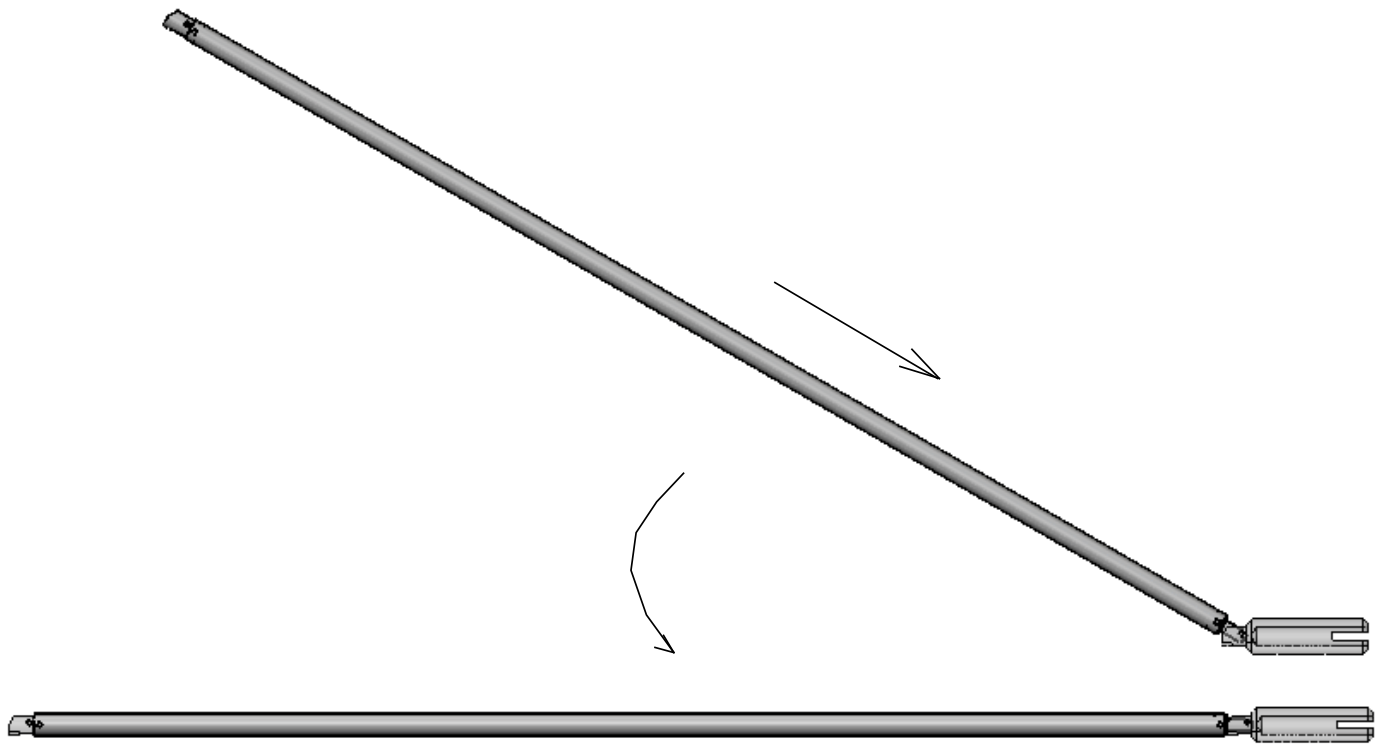

Figure 4: Connecting the BPC Installation Tool
1. Insert the BPC Insertion Tube (male end first) at an angle into the BPC Alignment Adapter (see figure 4).
2. Swing the BPC Insertion Tube down until it is parallel with the BPC Alignment Adapter; the BPC Insertion Tube male end adapter should be engaged with the BPC Alignment female adapter (see figure 4).